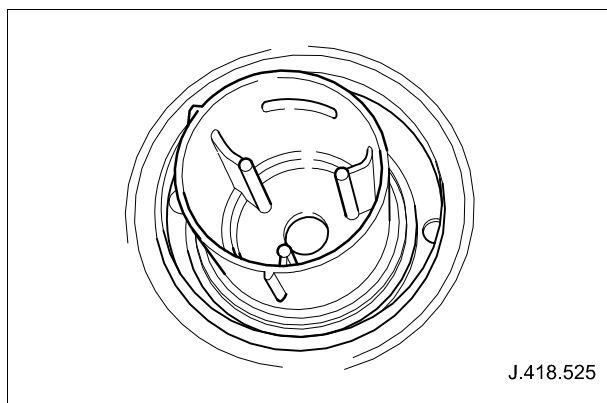

Fig. 12
- 3.6 Fig. 12 Shows an incomplete fuel tank fill level valve that **will not function correctly**.